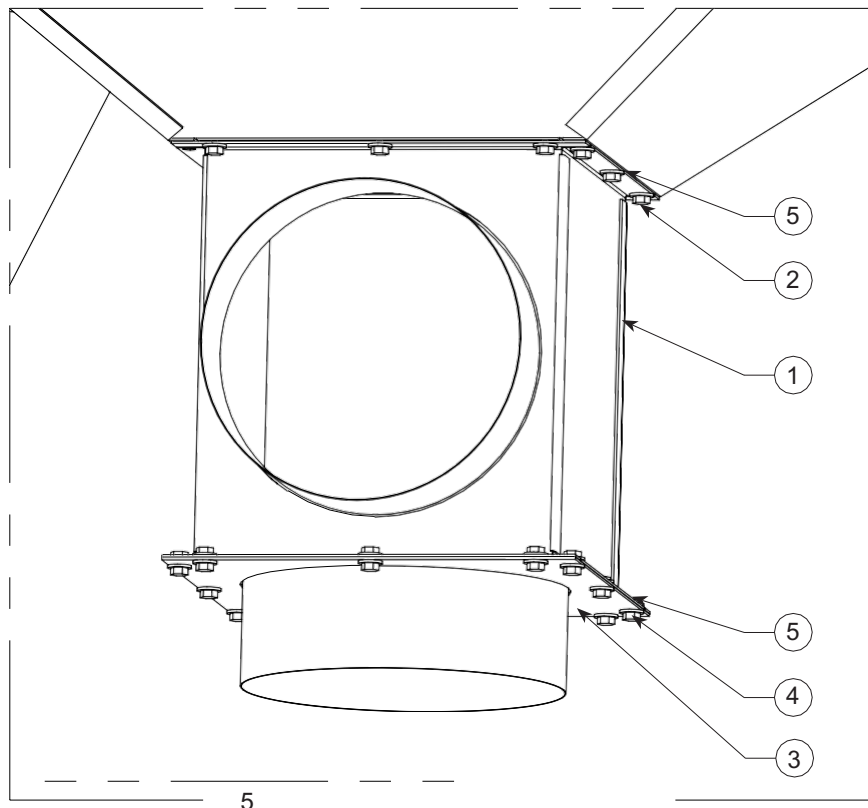

FIG. 4
8. Hopper Collar can be substituted for the Drop-Out Blank Plate (As Shown in **FIG. 4**).